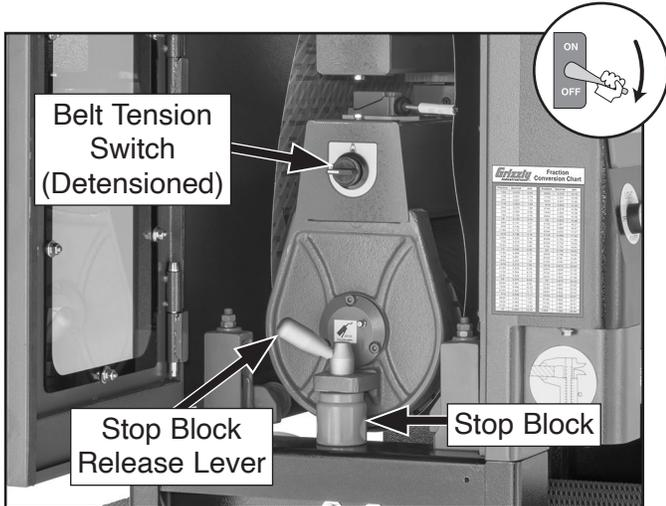

Figure 41. Components for changing sanding belt.
4. Turn belt tension switch counterclockwise to release sanding belt tension (see **Figure 41**).
5. Remove stop block release lever by turning it counterclockwise a 1/2 turn and pulling it up and out of mounting hole (see **Figure 41**).
6. Remove stop block (see **Figure 41**).